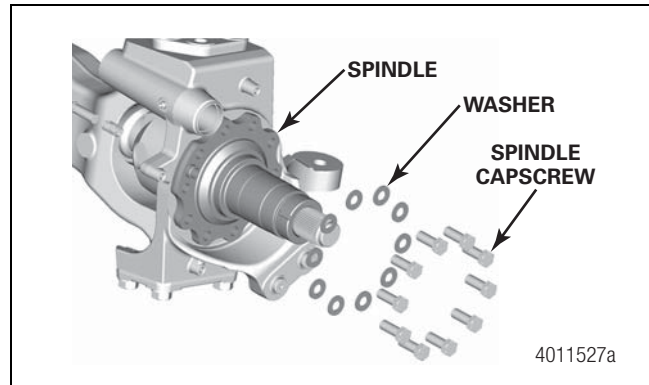

Figure 7.13
8. Install the spindle. Fasten all parts to the knuckle with 10 capscrows and washers. Tighten to 180-230 lb-ft (244-312 N•m). Figure 7.13.